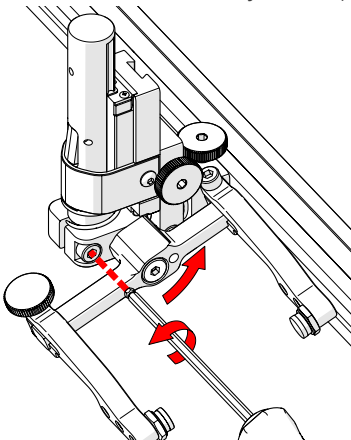

Fig. 131 - Loosen 3 mm screw
2. Using the supplied 3 mm hex driver loosen the transverse adjustment screw (*Fig. 131*) and rotate the yoke about the vertical shaft achieving the desired angle.